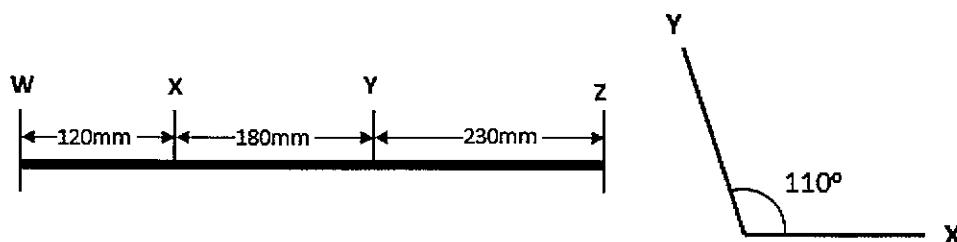

Figure 3(b) / Rajah 3(b)
- (b) A rotating shaft as shown in Figure 3(b). The mass X is 12 kg and Y is 6 kg at radius of 800 mm and 450 mm respectively. Two masses with radius of 600 mm are placed at W and Z to produce a balanced system. Calculate the mass at W and Z.